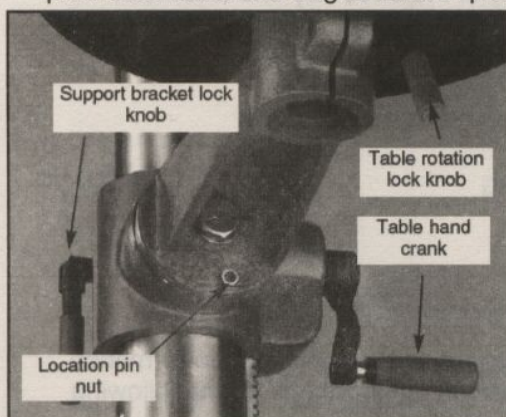

Figure 17
1. Loosen the support bracket lock knob. Turn the table hand crank to lift or lower the table as shown in **Figure 17**.
1. Turn the nut indicated by the arrow in **Figure 17**, in a clockwise direction. This will draw the location pin out of the casting. Once loose, pull the pin and nut out, and set it in a safe place until needed.